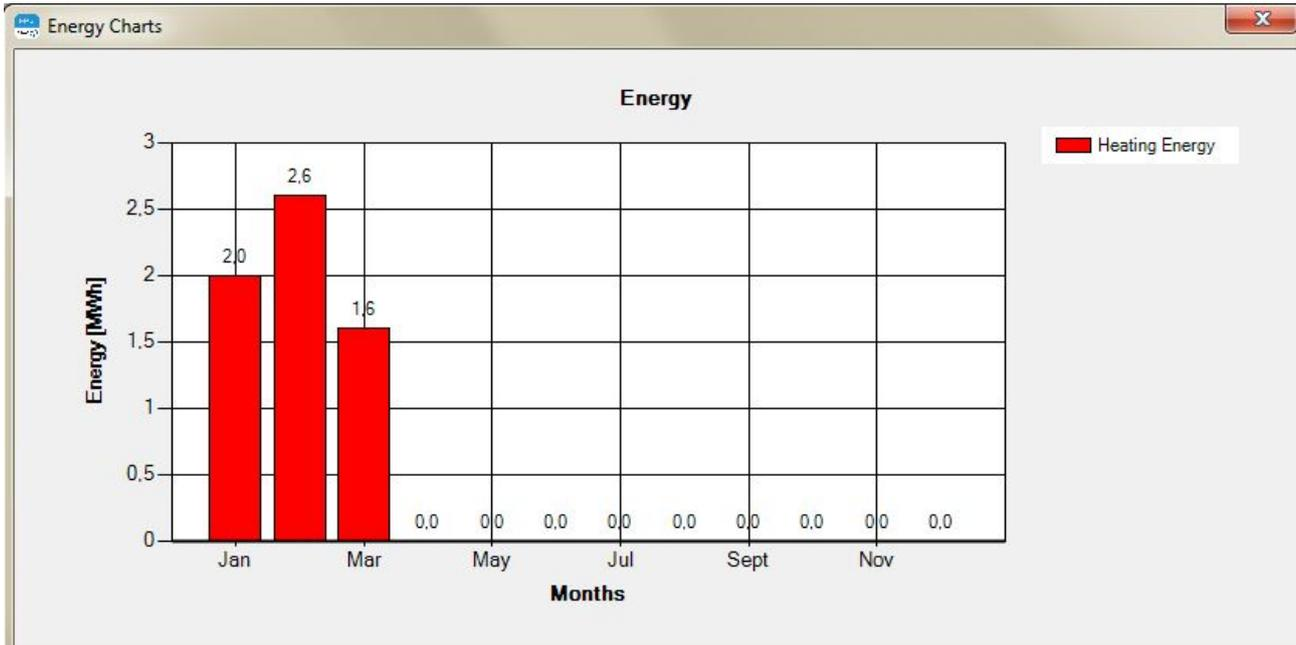

Figure 16. Window of the histogram chart of the energy
**CHARTS:** after selecting the variables (heating energy, cooling energy or both) to plot, pressing the "SHOW" button displays a histogram chart of the energy for the 12 months of the year (see figure 16).